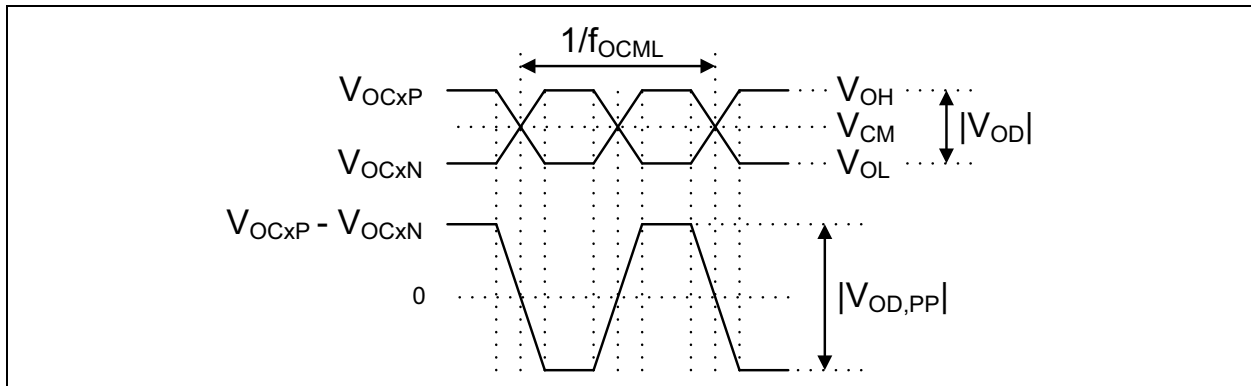

FIGURE 7-3: Electrical Characteristics: CML Clock Outputs.
- Note 1:** The differential CML outputs can easily be interfaced to LVDS, LVPECL, CML and other differential inputs on neighboring ICs using a few external passive components. See Figure 7-3 for details.